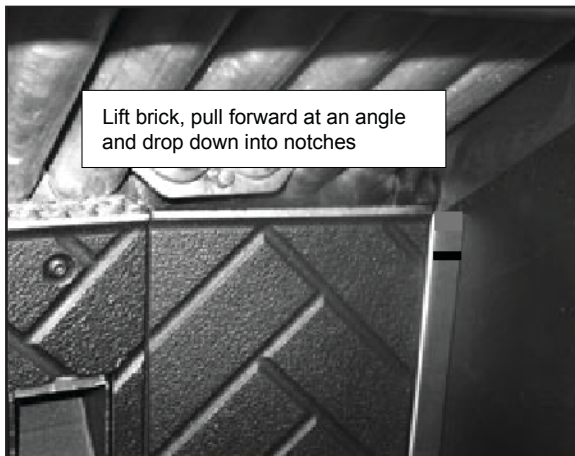

Figure 21.1
3. Lift slightly and pull the right edge of the brick forward until it stops and then drops down into both top and bottom notches of right bracket and locks into place. **Figures 21.1 and 21.2.**